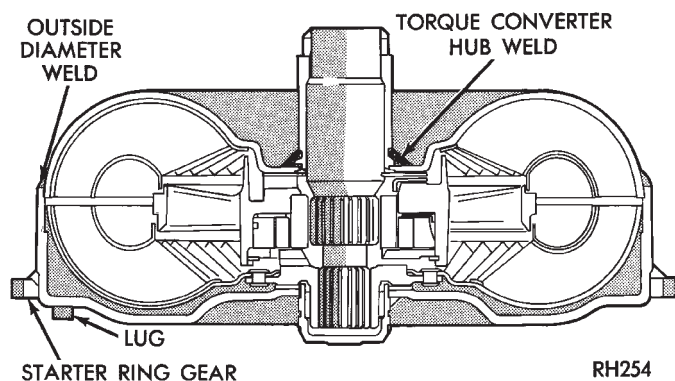

Fig. 12 Converter Leak Points—Typical
- (1) Leaks at the weld joint around the outside diameter weld (Fig. 12).
- (2) Leaks at the converter hub weld (Fig. 12).